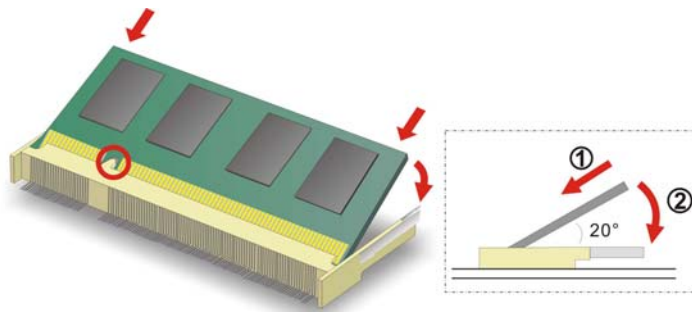

Figure 3-3: SO-DIMM Installation
Step 4: Insert the SO-DIMM. Push the memory in at a 20° angle (Figure 3-3)
Step 5: Seat the SO-DIMM. Gently push downwards and the arms clip into place. See Figure 3-3.